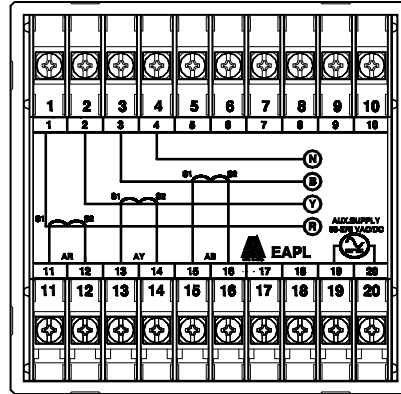

Fig 2
- 1) Connect 3 phase 4 wire voltage and current circuit as per the diagram given on the back panel.(fig.2)